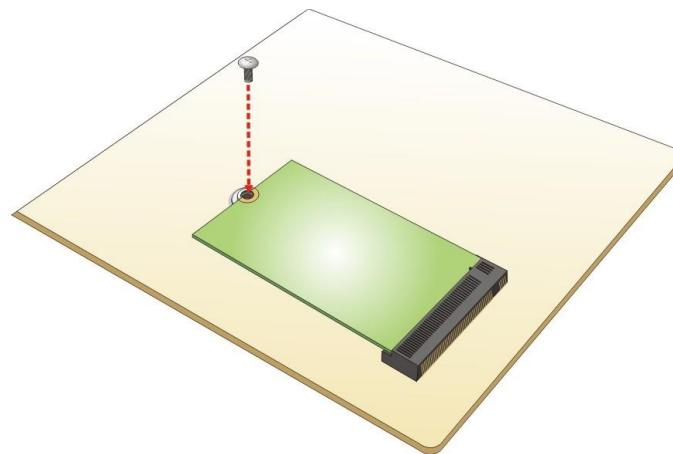

Figure 4-2: Securing the M.2 Module
Step 4: Secure the M.2 module with the previously removed retention screw (**Figure 4-2**).